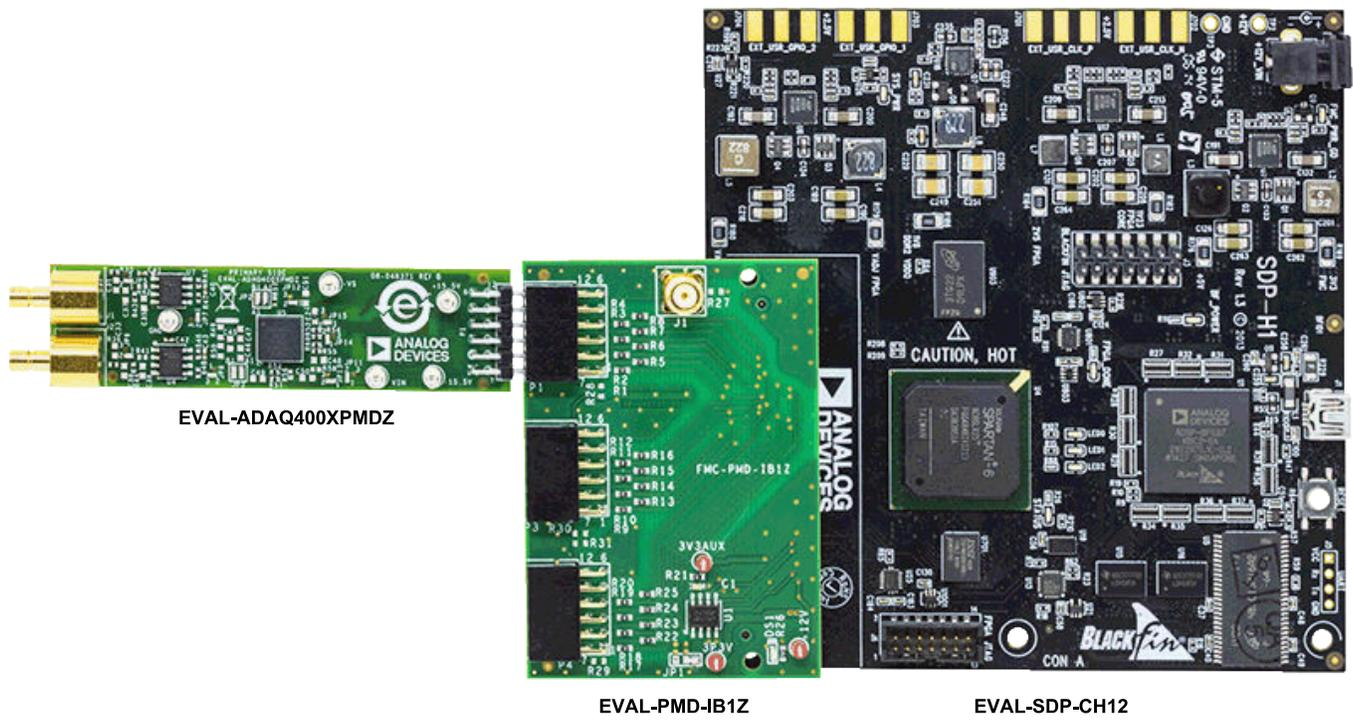

Figure 1.
The ADAQ4001 and ADAQ4003 μ Module® data acquisition system evaluation kit (EVAL-ADAQ4001FMCZ or EVAL-ADAQ4003FMCZ) contains the EVAL-ADAQ4001PMDZ or EVAL-ADAQ4003PMDZ peripheral module (Pmod) board and the EVAL-PMD-IB1Z Pmod to field programmable grid array (FPGA) mezzanine card (FMC) interposer board that interfaces with the system demonstration controller board (EVAL-SDP-CH1Z) via a 160-pin FMC connector, as shown in Figure 1.
demonstration platform (SDP-H1) to capture the data via a graphic user interface (GUI) (see Figure 1). The SDP-H1 requires power from a 12 V wall adapter. The SDP-H1 has a Xilinx[®] Spartan[®]-6 and an ADSP-BF527 processor with connectivity to the PC through a USB 2.0 high speed port.
1. Connect the EVAL-ADAQ4001PMDZ or EVAL-ADAQ4003PMDZ to the EVAL-PMD-IB1Z interposer board at the P1 header (see Figure 1).